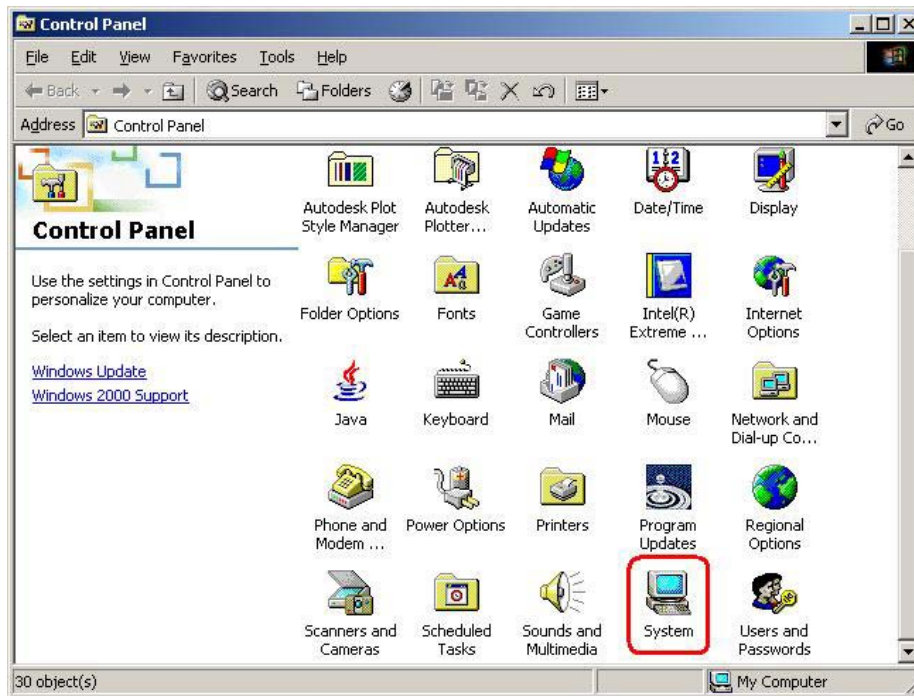

Figure 6-14: Double Click the System Icon
Step 2: Double click the **System** icon (Figure 6-14).